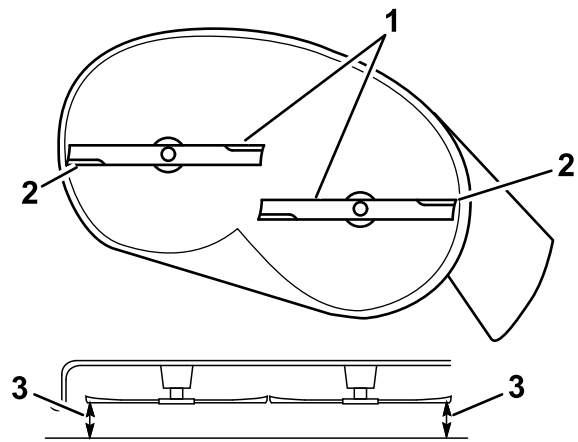

Figure 65
5. Measure between the outside cutting edges and the flat surface (Figure 65).